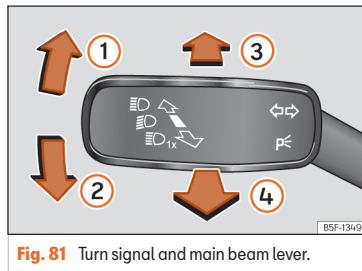

Fig. 81 Turn signal and main beam lever.
- From the neutral position, press the turn signal and main beam headlights lever forwards  **Fig. 81 (3)**.
- **EITHER:** if main beam assist is on, pull the turn signal light and main beam headlights lever back  **Fig. 81 (4)**.